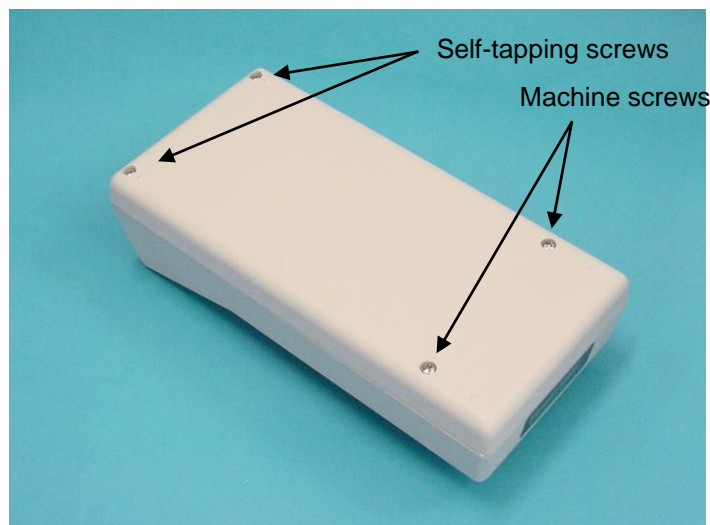

Figure 4. Bottom View – Attachment Screw Locations
- 13.3 Properly position the back of the case onto the instrument and replace the four screws. Note that the self-tapping screws are replaced in the holes close to the top edge of the instrument, and the machine screws at the two locations over the main board (See Fig 4).